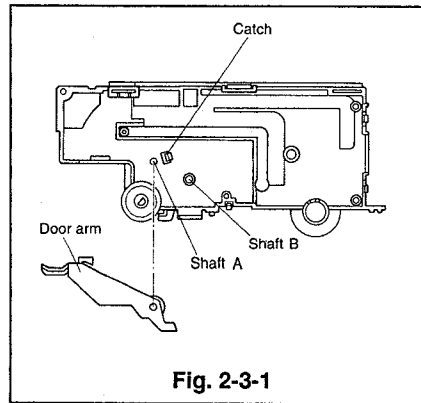
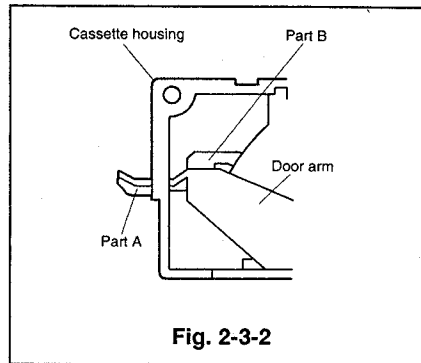

Fig. 2-3-1
Fig. 2-3-2
- 3 Unfasten the catch shown in Fig. 2-3-1 to remove the door arm. (Pull the door arm at the same time as unfastening the catch.)
- 1 Fix the door arm to the shaft A shown in Fig. 2-3-1 and secure it with the catch so that the parts A and B are inside of the cassette housing, as shown in Fig. 2-3-2.